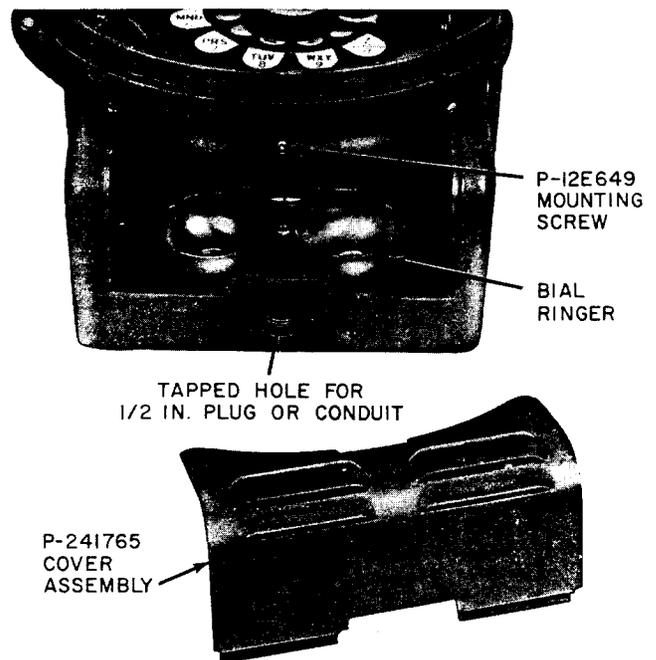

Fig. 8—325-Type Telephone Set, Cover Assembly Removed
4.07 To gain access to the J1A ringer, remove lower cover mounting screw located on bottom of set housing (Fig. 8).